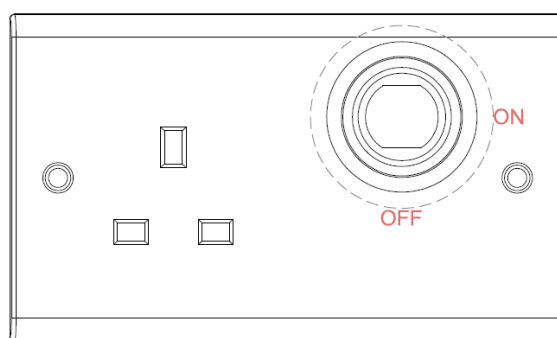

Figure 2: Twist Key Clockwise for Off, Anticlockwise for On
7. Switch on the power supply and check the operation **Figure 2**